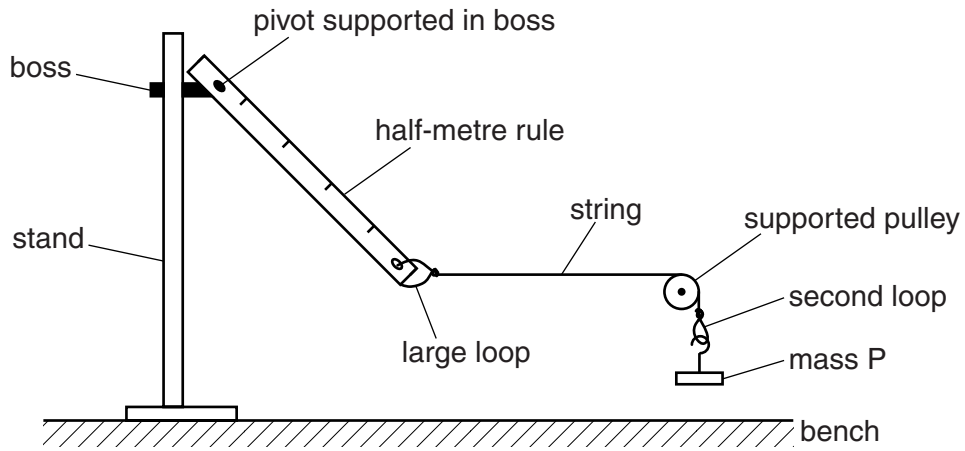

Fig. 1.1
4. One end of the thin string should be passed through the hole at the 49.0 cm mark and tied to the half-metre rule by creating a large loop at the end of the string. A second loop should be tied at the other end of the string. Supervisors should ensure that the knots do not slip. The **candidate** will pass the string over the pulley wheel and suspend the mass from the second loop, as shown in Fig. 1.1.
6. The Supervisor should pass the pivot through the hole at the 1.0 cm mark on the half-metre rule with the scale facing the candidate. If a nail is used, the pointed end of the nail should be inserted into the hole and the head of the nail should be inserted into the boss. In this way the head of the nail will prevent the rule falling off the nail. The candidate should then set up the remainder of the apparatus as shown in Fig. 1.1.